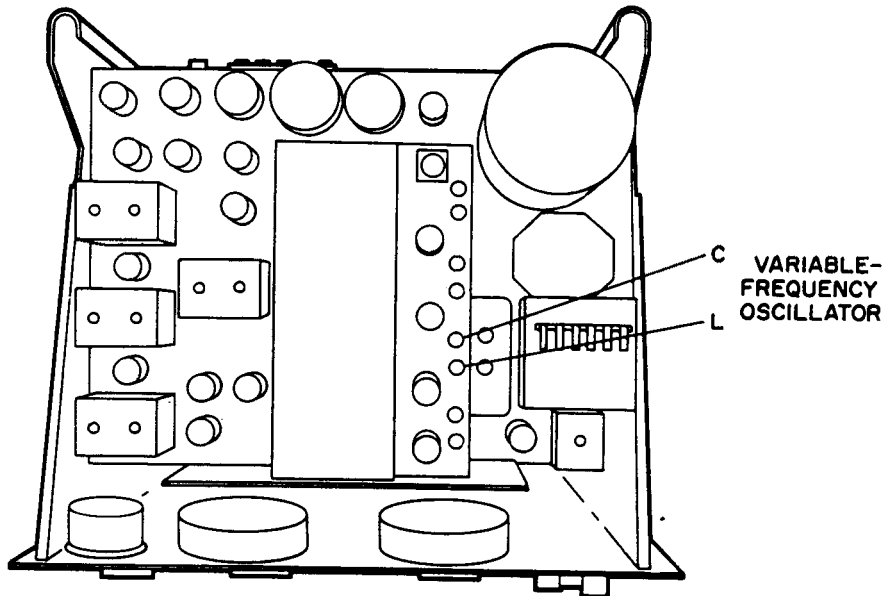
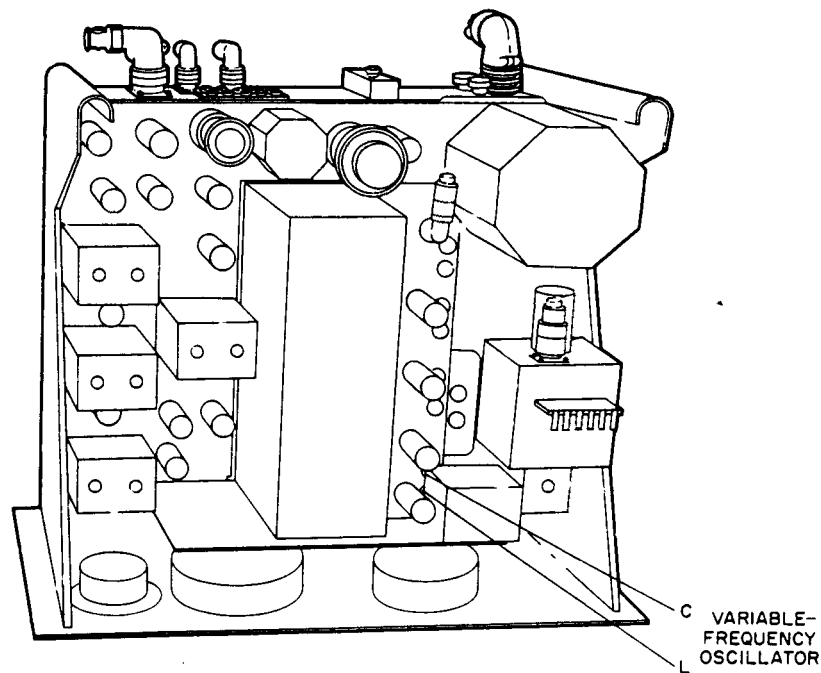

Figure 2-3. Radio Receiver SP-600-JX-21, Top View of R-F Section
Figure 2-4. Radio Receiver SP-600-JX-17, Top View
- (2) Set the MOD-CW switch on the radio receiver to the MOD position.
- (3) Set the SELECTIVITY switch on the radio receiver to the 3 NON-XTAL position.
- (4) Set the MULTIPLIER switch on the signal generator to the .1 position and adjust the CARRIER CONTROL until an indication of 100 is obtained on the output meter of the signal generator.
- (5) Adjust the MICROVOLTS control on the signal generator until an indication of 30 is obtained on the upper scale of the signal generator output meter.
- (6) Set the MOD SELECTOR switch on the signal generator to the 400 cycle position.
- (7) Set the METER READS switch on the signal generator to the % MOD position and adjust the % MODULATION control until an indication of 30 is obtained on the lower scale of the signal generator output meter.
- (8) Set the METER READS switch on the signal generator to the RF position.
- (9) Rotate the BAND CHANGE switch on the radio receiver until the indication 0. 54-1. 35 appears in the MEGACYCLES window.
- (10) Rotate the radio receiver TUNING control until an indication of 0. 56 megacycle is obtained on the main tuning and vernier dials.
- (11) Adjust the AUDIO GAIN control on the radio receiver until an indication of 2. 45 volts is obtained on the multimeter.
- (12) Refer to figure 2-3 for radio receiver SP-600-JX-21 or figure 2-4 for Radio Receiver SP-600-JX-17. Remove the metal cap and adjust variable-frequency oscillator L until a maximum indication is obtained on the multimeter.
- (19) Set the MOD SELECTOR switch on the signal generator to the 400 cycle position.
- (20) Refer to figure 2-3 for Radio Receiver SP-600-JX-21 or figure 2-4 for Radio Receiver SP-600-JX-17. Remove the metal cap and adjust variable-frequency oscillator C until a maximum indication is obtained on the multimeter.
- (21) Rotate the CARRIER CONTROL on the signal generator fully counterclockwise and the MICROVOLTS control on the signal generator fully clockwise.
- (22) Set the MOD SELECTOR switch on the signal generator to the OFF position.
- (23) Repeat step b. (4) through (6) and (8) through (22).
- (24) Rotate the signal generator tuning dial until an indication of 1.4 megacycles is obtained on the frequency and index scales.
- (25) Rotate the BAND CHANGE switch on the radio receiver until the band indication 1.35-3.45 appears in the MEGACYCLES window.
- (26) Rotate the radio receiver TUNING control until an indication of 1.4 megacycles is obtained on the main tuning and vernier dials.
- (27) Repeat step b. (17) through (19).
- (28) Refer to figure 2-3 for Radio Receiver SP-600-JX-21 or figure 2-4 for Radio Receiver SP-600-JX-17. Adjust variable-frequency oscillator L until a maximum indication is obtained on the multimeter.
- (29) Repeat step b. (13) and (14).
- (30) Set the FREQUENCY BAND SWITCH on the signal generator to the Band F position and rotate the signal generator tuning dial until an indication of 3.4 megacycles is obtained on the frequency and index scales.
- (31) Rotate the radio receiver TUNING control until an indication of 3.4 megacycles is obtained on the main tuning and vernier dials.
- (32) Repeat step b. (17) through (19).
- (33) Refer to figure 2-3 for Radio Receiver SP-600-JX-21 or figure 2-4 for Radio Receiver SP-600-JX-17. Adjust variable-frequency oscillator C until a maximum indication is obtained on the multimeter.
- (34) Rotate the CARRIER CONTROL on the signal generator fully counterclockwise and the MICROVOLTS control on the signal generator fully clockwise.
- (35) Set the MOD SELECTOR switch on the signal generator to the OFF position.
- (36) Repeat step b. (24) through (35).
- (37) Rotate the signal generator tuning dial until an indication of 3.75 megacycles is obtained on the frequency and index scales.